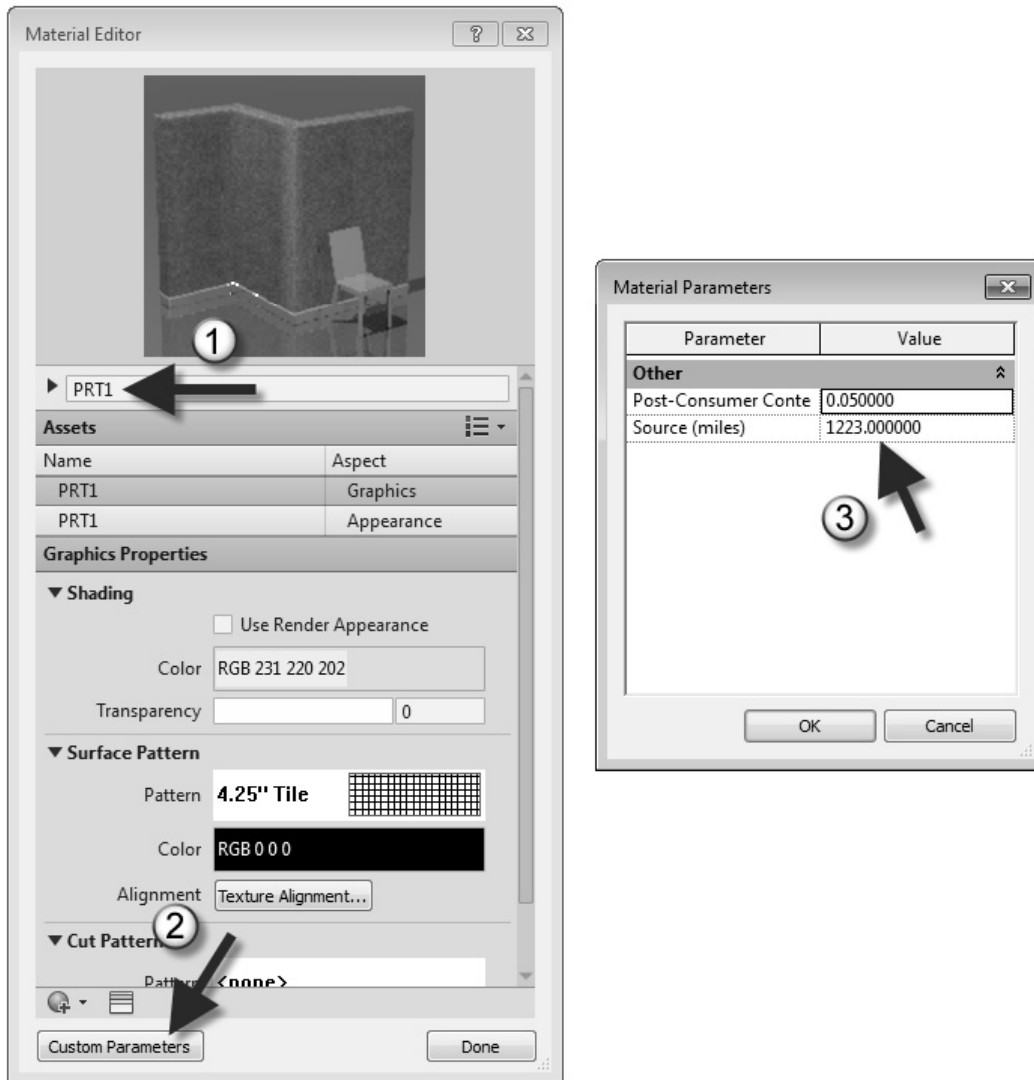

FIGURE 4-5.2 Custom material parameters in the *Materials* dialog
9. Click the **Custom Properties** button in the lower left (Figure 4-5.2).